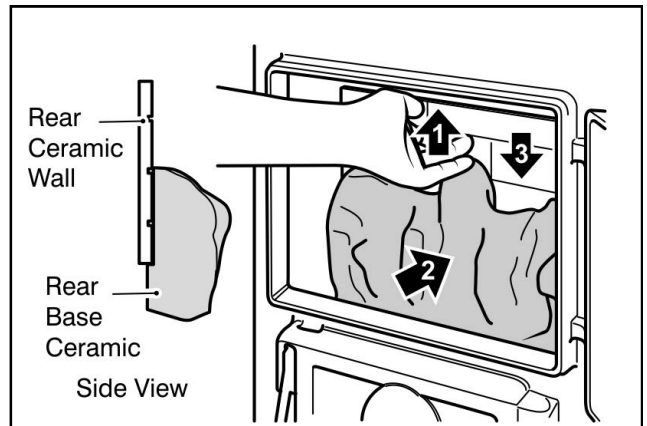

Figure 5.
2. The rear ceramic wall must be located onto the ledges at the back of the rear base ceramic (See figure 5). To achieve this, hold the rear ceramic wall against the rear of the firebox at its uppermost position. Whilst holding the rear ceramic wall in this position locate the rear ceramic base coal into position (See figure 5). The rear wall can now be released. Ensure that the rear ceramic wall sits on the ledge at the back of the rear base coal.